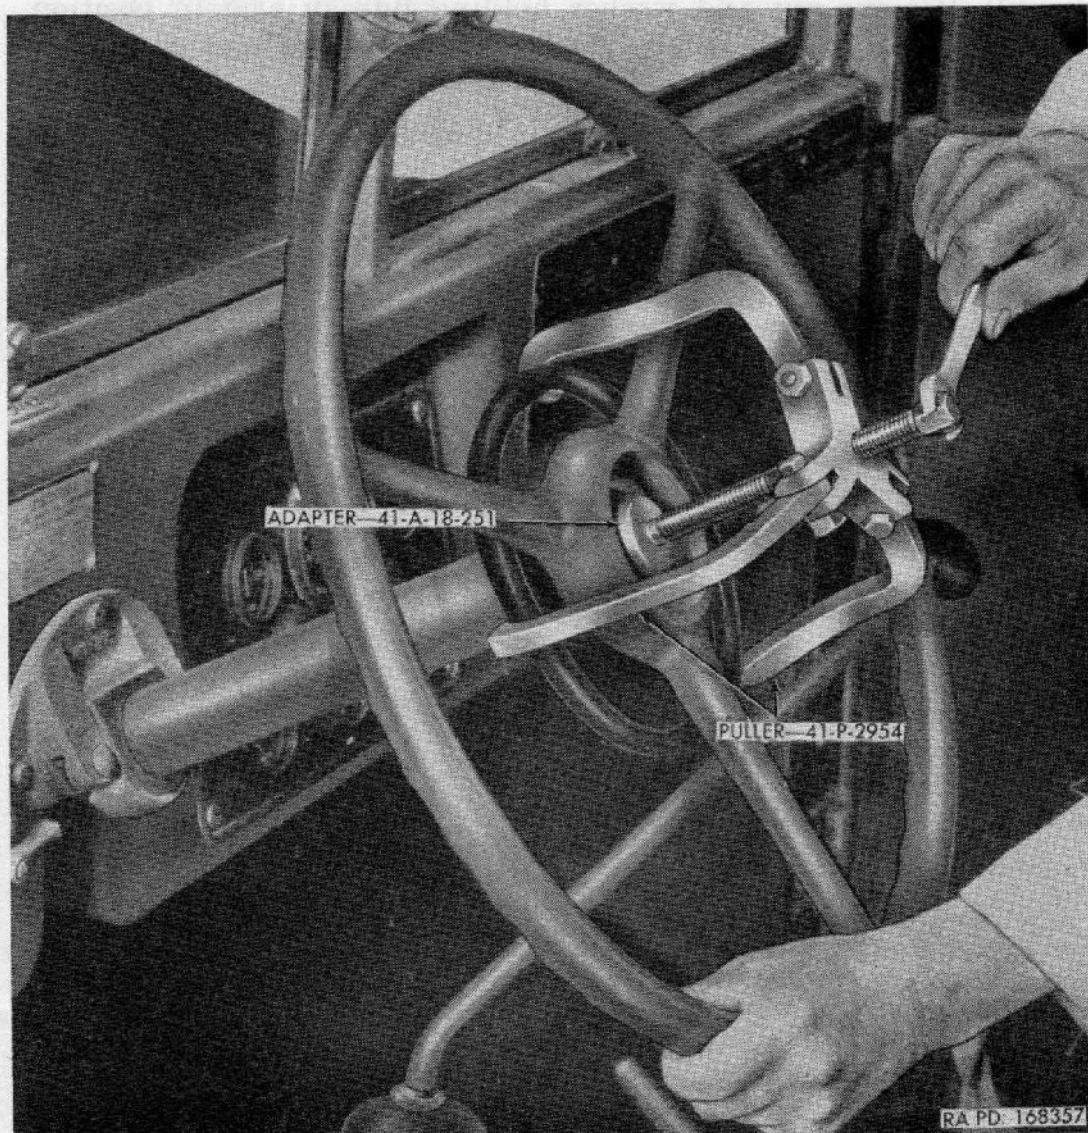

Figure 119. Removing steering wheel with puller 41-P-2954 and adapter 41-A-18-521.
a. REMOVAL (fig. 119).
- (1) Detach horn button. Disconnect horn cable and remove horn switch assembly from steering wheel.
- (2) Place adapter 41-A-18-251 on end of steering gear shaft. Install puller 41-P-2954 with hooks engaging puller ring, and pull wheel.
b. INSTALLATION (fig. 119).
- (1) Place steering wheel on steering gear shaft and tap into position until hex nut can be engaged with threads. Tighten nut.